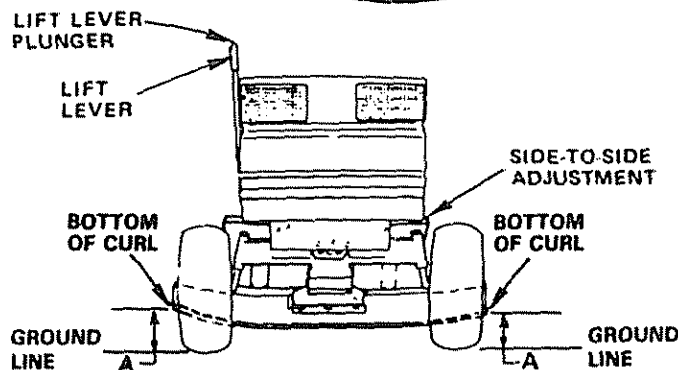

FIGURE 31
- Measure height from bottom of curl to ground line at front of mower. Distance "A" should be the same on both sides (Fig. 31).